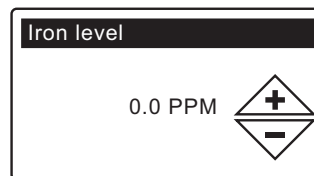

FIG. 18
- 11. IRON LEVEL** Press the UP (▲) or DOWN (▼) buttons to set the value for iron in your water (See Figure 18)